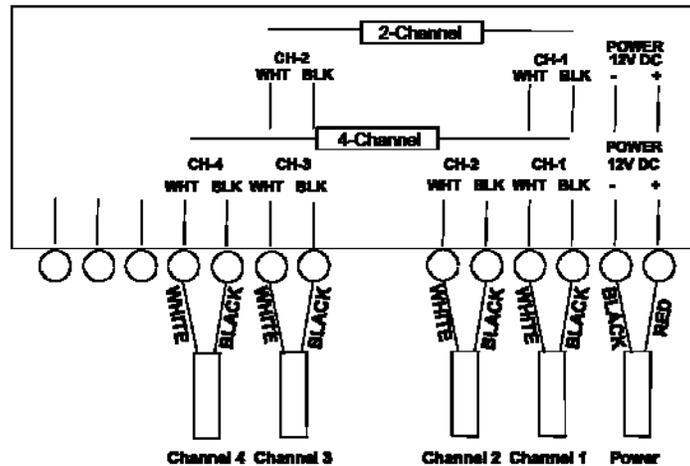

Figure 10-1. Meter connections
3. Install the wires into the green meter connector and snugly tighten each terminal. Use Figure 10-1 as a guide.